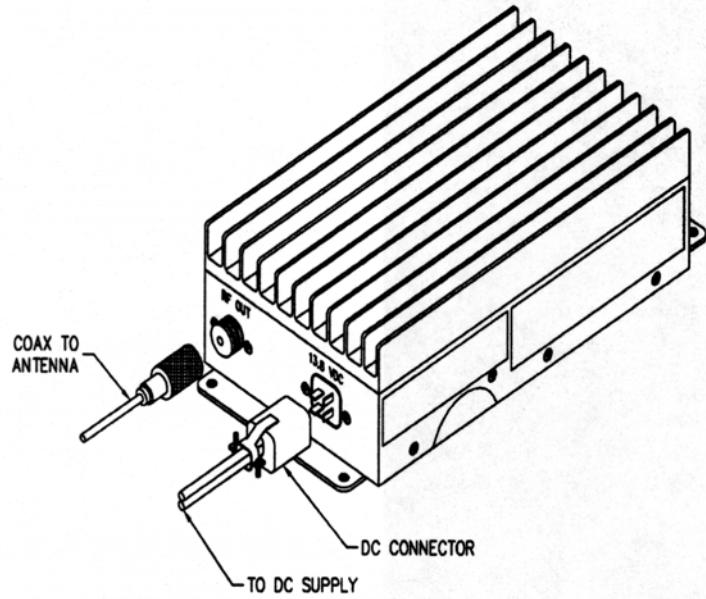

Figure 4. Antenna connection
3. Connect the antenna to the "RF OUT" terminal with a 50Ω coaxial cable and a PL-259 UHF male connector according to figure 4.